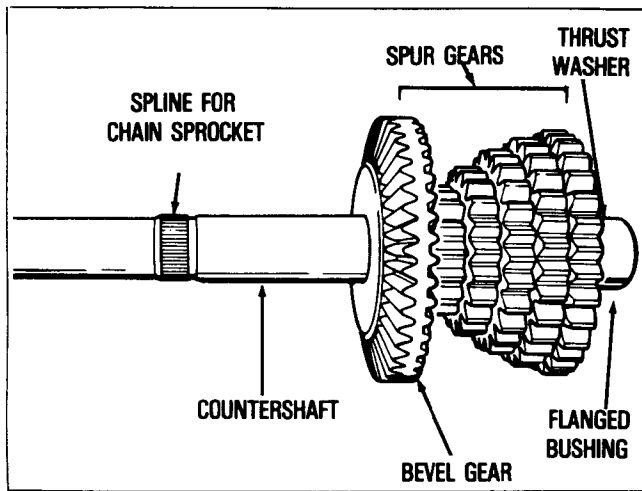

FIGURE 13
- On the countershaft, install bevel gear with the wide angle of the gear teeth facing the sprocket and smallest to largest spur gears, thrust washer and bushing to the countershaft. Install the sprocket with the collar facing the bevel gear. See Figure 13.